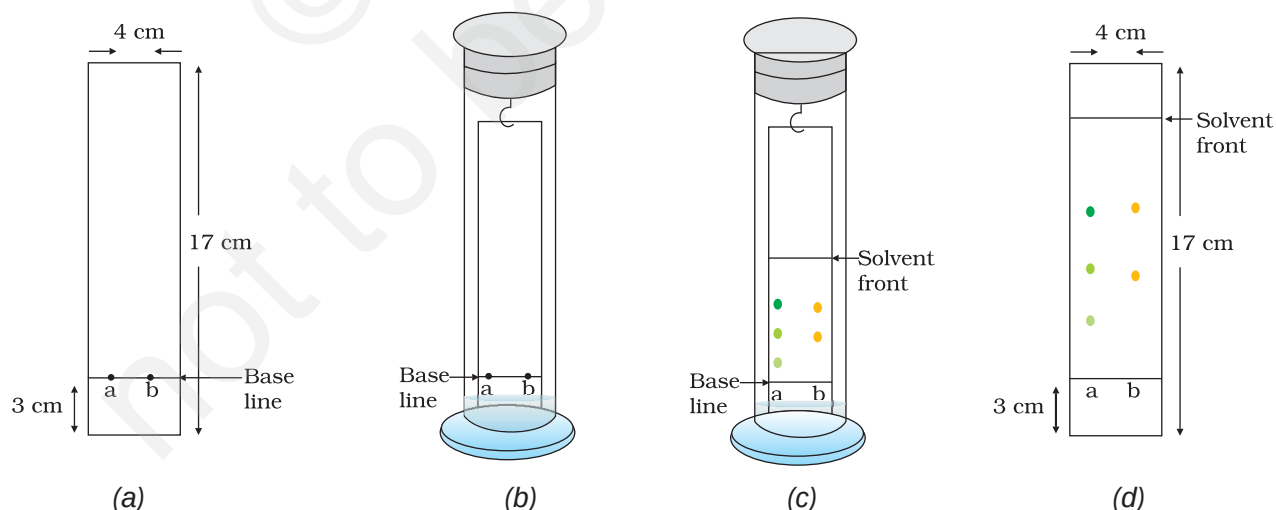

Fig. 5.1 : (a) Marked paper; (b) Dipping the filter paper in the solvent; (c) Developing chromatogram; and (d) Developed chromatogram
- (iii) Procure a Whatman filter paper No.1 of size 4 cm 17 cm and mark a line at a distance of 3 cm from one of the ends of the paper with the help of a pencil [Fig. 5.1(a)].
- (iv) Using a finely drawn capillary, put one spot 'a' for the extract of leaves and one spot 'b' for the extract of flowers. Allow these spots to dry as shown in Fig. 5.1 (a).
- (v) Hang the filter paper in a jar containing 20 mL mixture of petroleum ether (boiling range 60–80°C) and chloroform containing 19 mL petroleum ether and 1 mL chloroform or a mixture of petroleum ether (boiling range 60–80°C) and acetone in the ratio 9:1 (18 mL petroleum ether + 2 mL acetone) so that the solvent does not touch the reference line as given in Fig. 5.1 (b).
- (vi) Keep this jar as such till the mobile phase (solvent) rises up to 2/3 of the length of the paper [Fig. 5.1(c)].
- (viii) Measure the distance travelled by the solvent front and the centre of different spots with respect to the reference line as given in Fig. 5.1 (d).